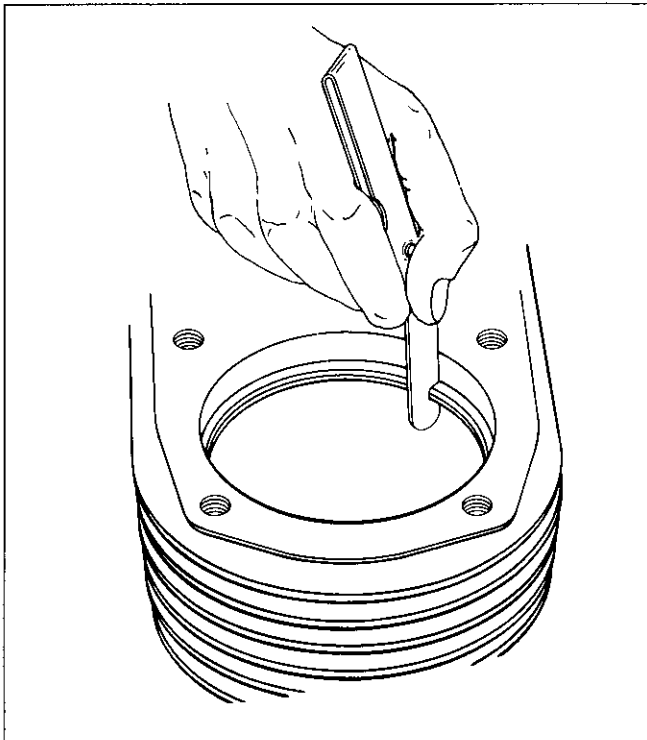

Figure 10-8. Measuring Piston Ring End Gap.
4. Before installing the rings on piston, place the top two rings, each in turn, in its running area in cylinder bore and check end gap (see Figure 10-8). This gap should be **0.75 mm (0.030 in.) max.** in a used cylinder bore and **0.3/0.5 mm (0.012/0.020 in.)** in a new cylinder bore.